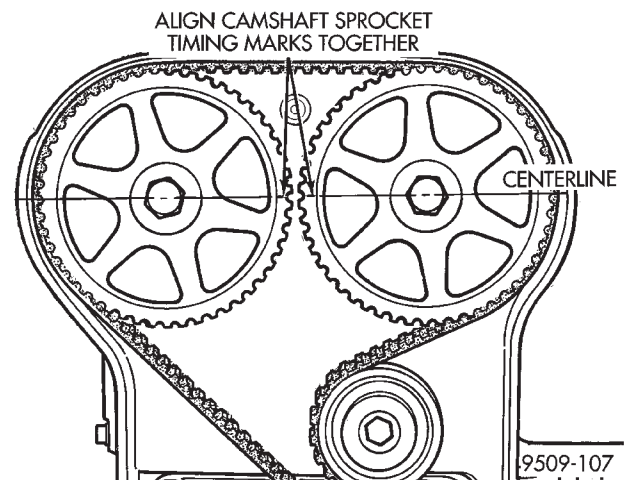

Fig. 54 Camshaft Timing Marks
(2) Set camshafts timing marks together by aligning notches on sprockets (Fig. 54).